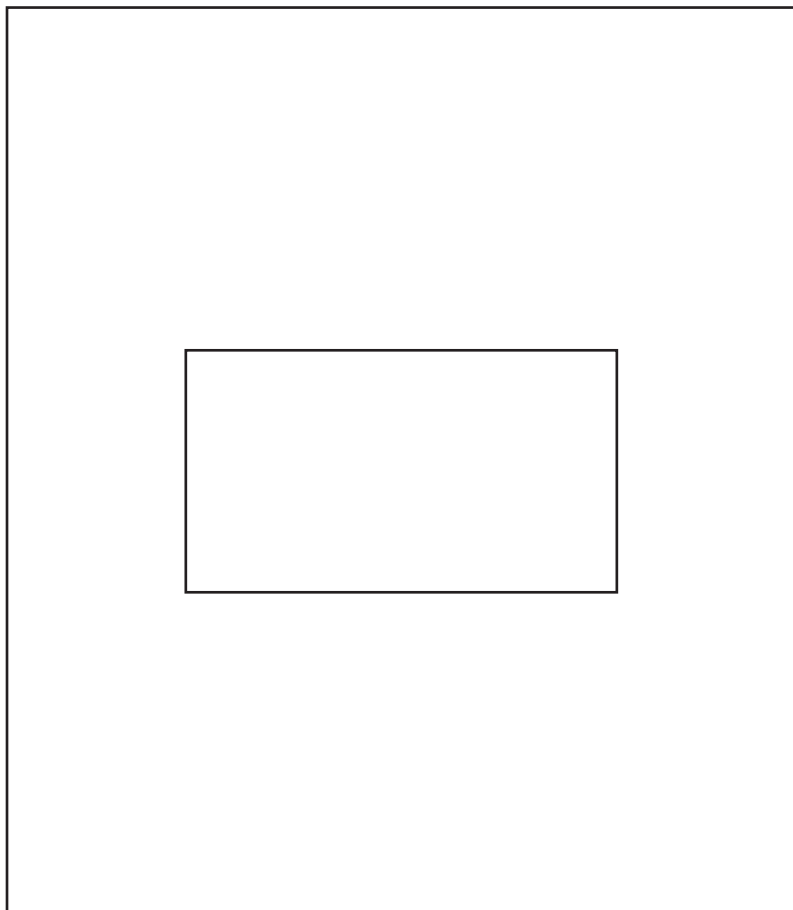

Fig 1.1
- (a) Place the transparent block on **Fig. 1.2** on the opposite page and mark its outline. The block should be as indicated in **Fig. 1.1**. Remove the block and draw a normal near the middle of one of the long sides of the block.